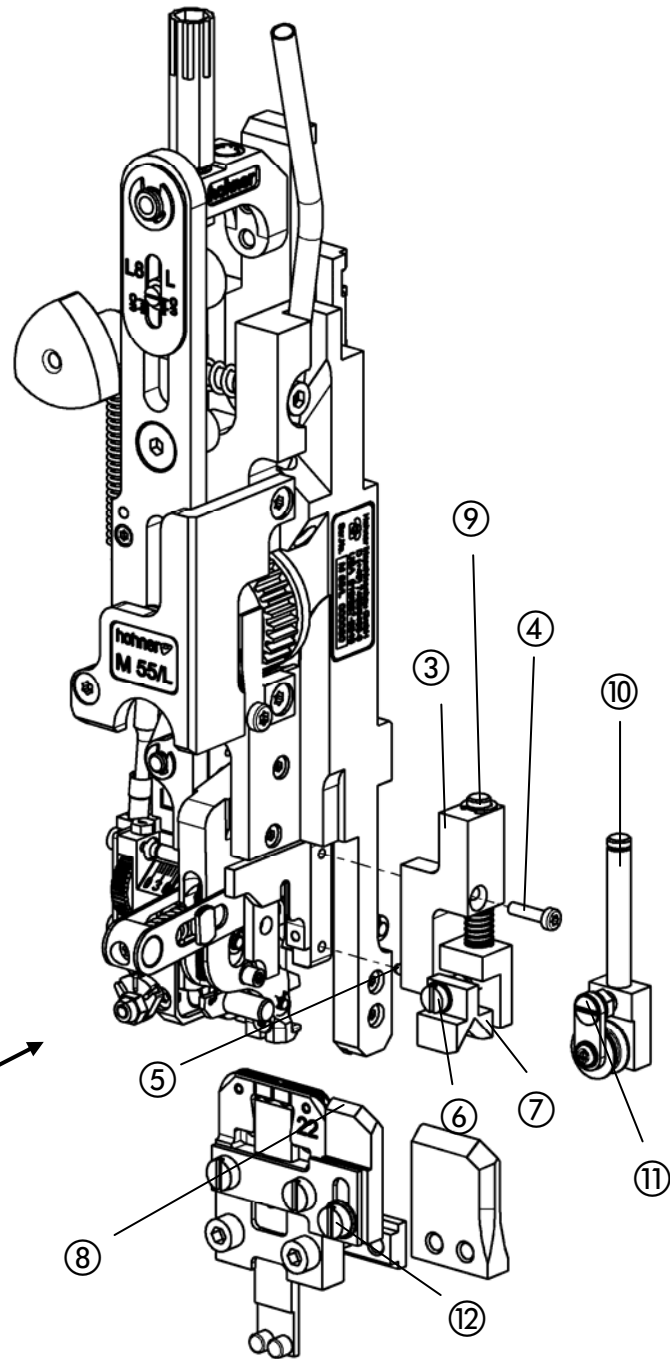

Fig. 17
- Fig. 17 -
- Insert guide bolt ⑤ in the bore hole at the bender and tighten fastening screw ④ to mount the centering device ⑦.
- Set the centering prism ⑮ to the front or rear until it is exactly aligned with the prism guiding cam ⑱.
- Set the height of prism ⑱ (approx. 0.5 mm above the clincher box) by shifting the prism inside the oblong hole and tighten fastening screw ⑳.
- Press safety clip ⑨ out to the side to mount the centering device roller. Push out centering device ⑦ downward. Push centering device roller ⑩ with compression spring in holder ③ from below and press in safety clip ⑨.
- Adjust the roller guide prism by turning screw ⑪ on the loop-stitching chamber (height of prism ⑧ is stated above).